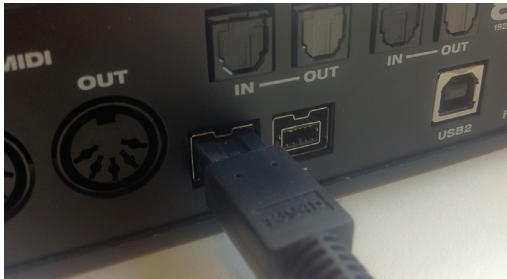

Figure 4-1: Connecting the 828mk3 to the computer via FireWire.
- 3 Plug the other end of the FireWire cable into the 828mk3 as shown below in Figure 4-1.